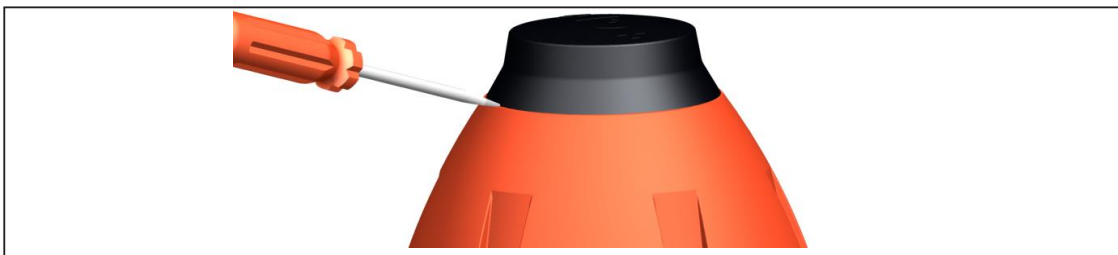

Fig. 2
- ▶ Remove the cap from the bonnet assembly (top part), see Fig. 2. To do so, position the screw driver in the notch of the cap.
- ▶ Remove the cap from the bonnet assembly (top part), see Fig. 2. To do so, use a screw driver.